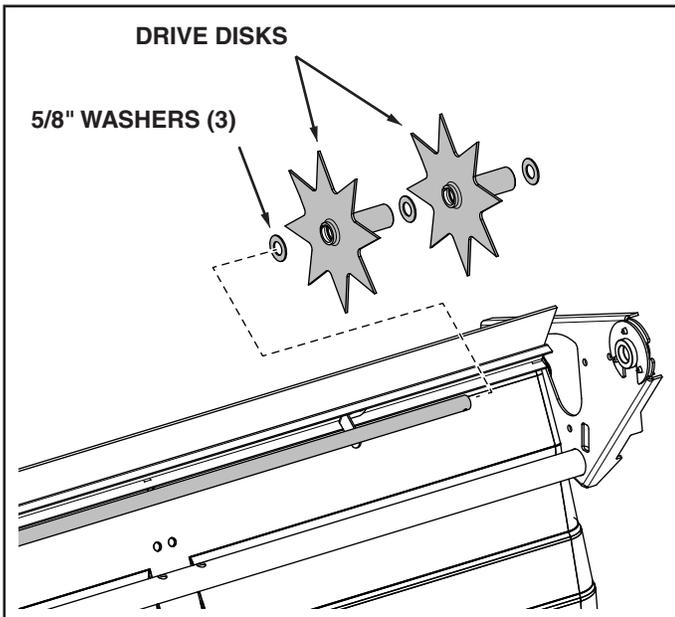

FIGURE 6
- Assemble three 5/8" washers and the two drive disks (facing as shown) onto the axle. See figure 6.